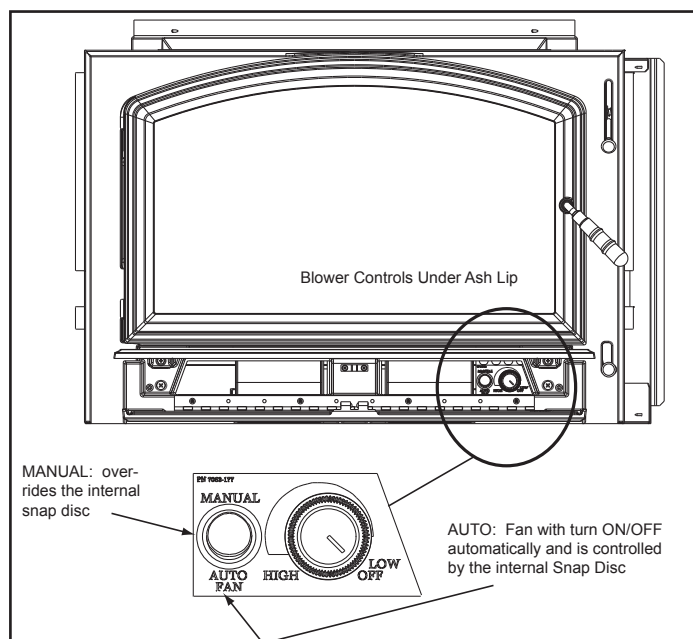

Figure 6.1
1. The blower will turn on/off automatically when set to AUTO. **Figure 6.1 on page 6.**